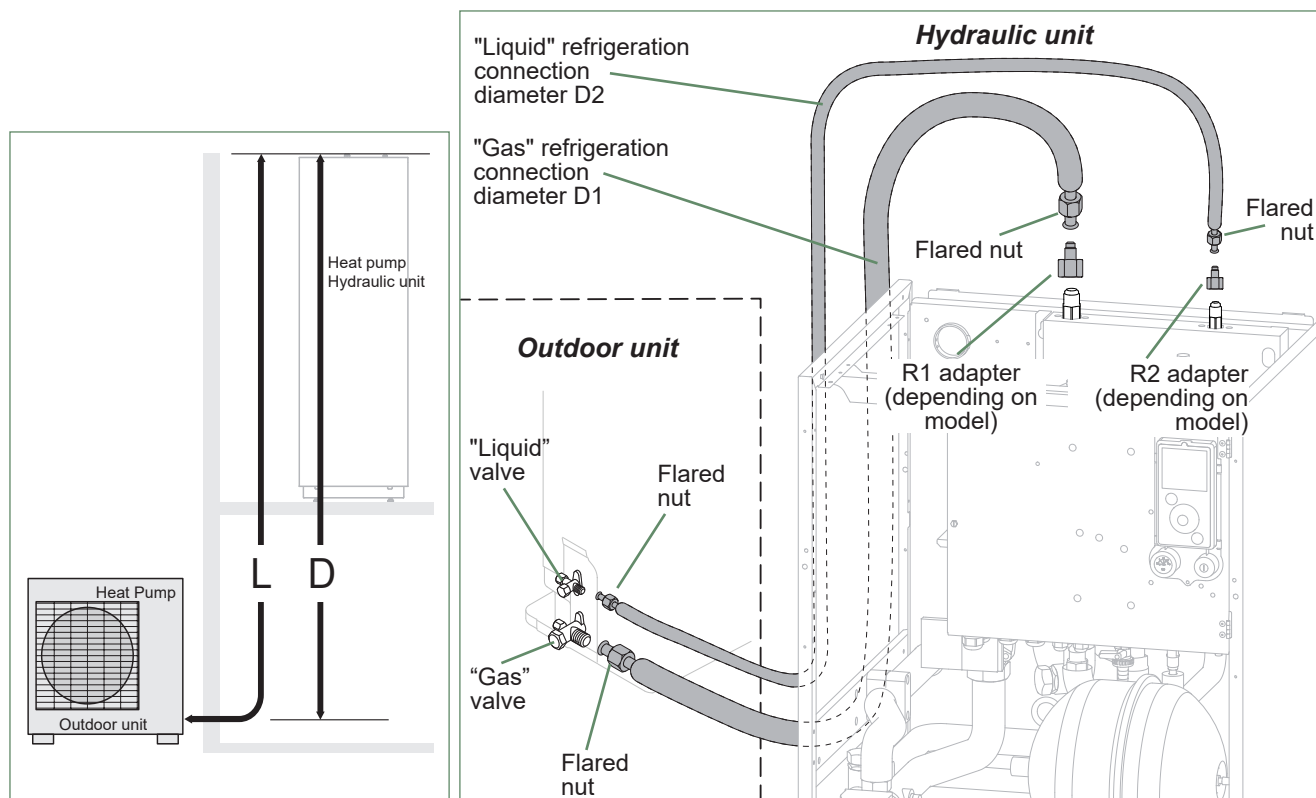

fig. 19 - Refrigeration connections (authorised diameters and lengths)
③ Connect the liquid connection to the hydraulic unit. Blow nitrogen into the **gas-condenser-liquid connection** system and inspect its end (outdoor unit side).
- Where necessary, connect an adapter (reducer) 1/4"- 3/8" or 1/2"- 5/8" (see fig. 19).